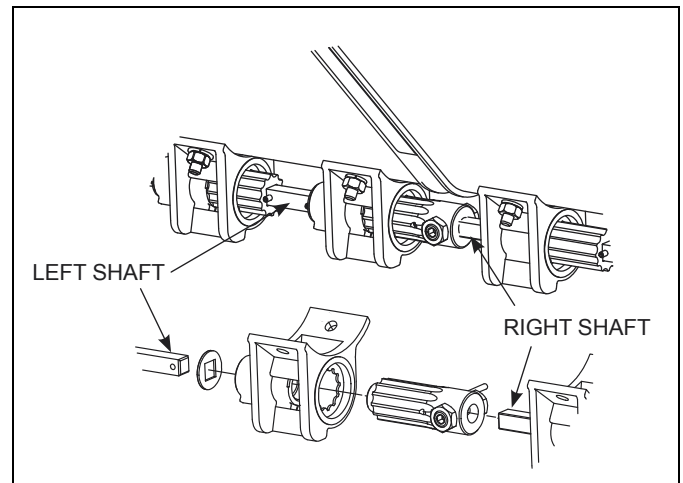

Figure 4-7: Feed Roll Coupling
2. Seed Box: Feed roll coupling which joins the left and right seed shafts changes cups on the left box in comparison with cups on the right box. See Figure 4-7.